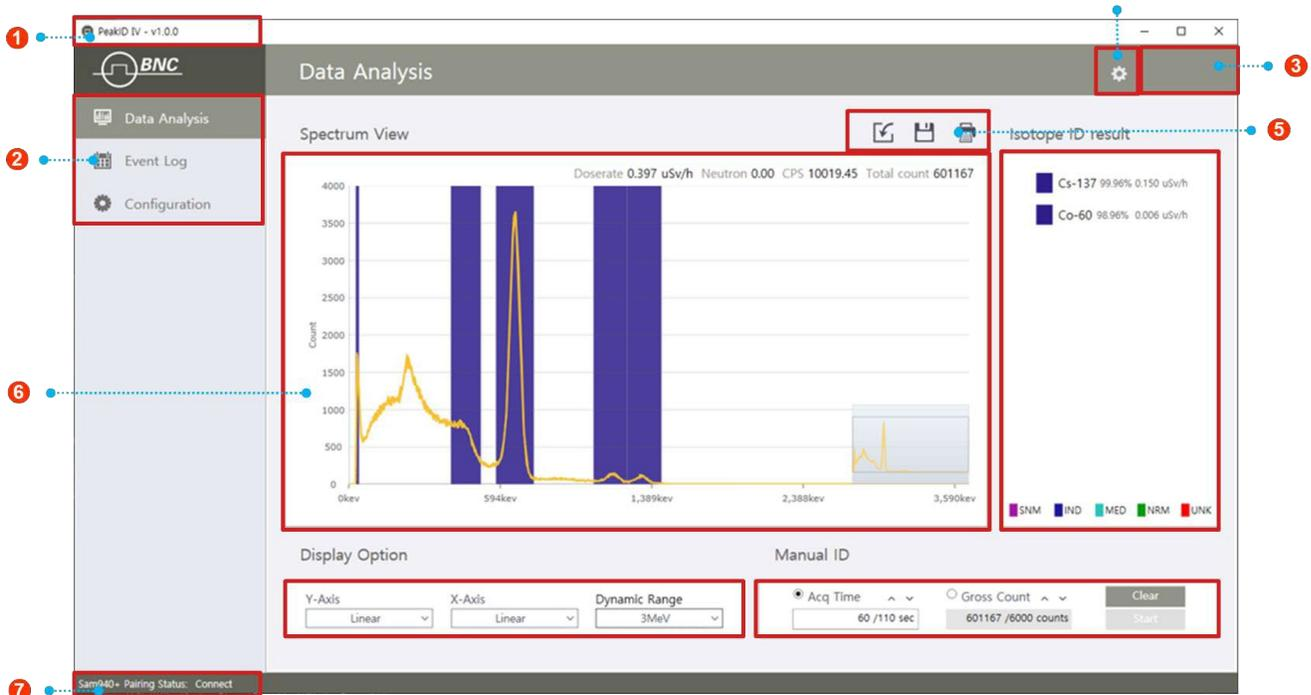

Figure 7.4.1. PeakID GUI
The home GUI (graphic user interface) of PeakID IV is shown in figure 7.4.1. It consists of a tab menu bar on the left side of screen (1) and several partitioned windows for spectrum display, command functions, and other information. The partitioned windows and its contents are changed depending on the selected menu.